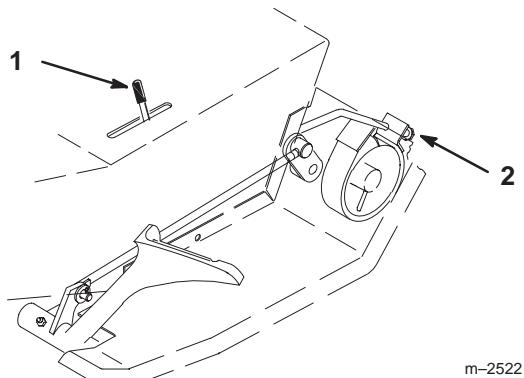

Figure 33
The brake adjustment is behind the left side cover (Fig. 33). If the parking brake does not hold securely, an adjustment is required.
3. To adjust the brake tighten adjustment nut until rear wheels skid, then tighten an additional 1/2 turn (Fig. 33).